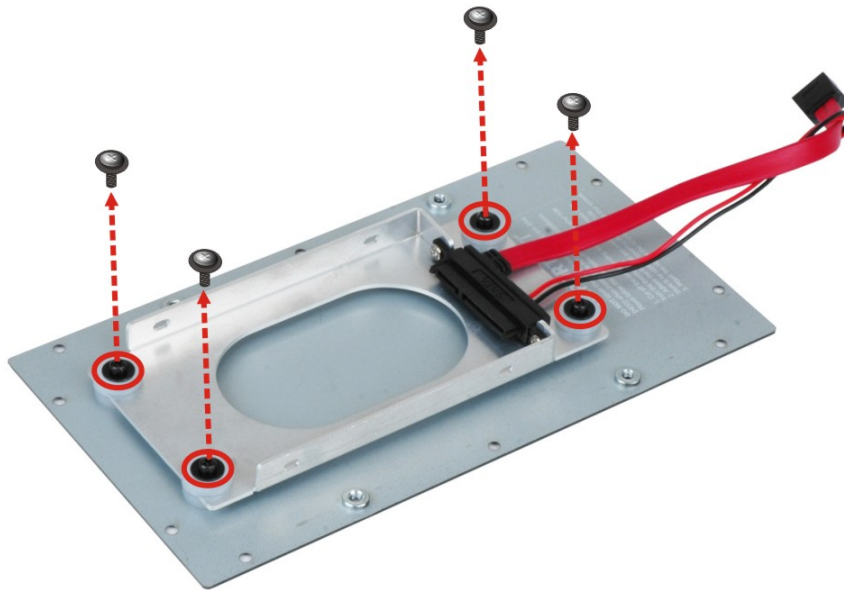

Figure 3-4:HDD Bracket Retention Screws
Step 2: Remove the hard drive bracket from the bottom surface by removing the four retention screws that secure the bracket to the bottom surface. (**Figure 3-4**)